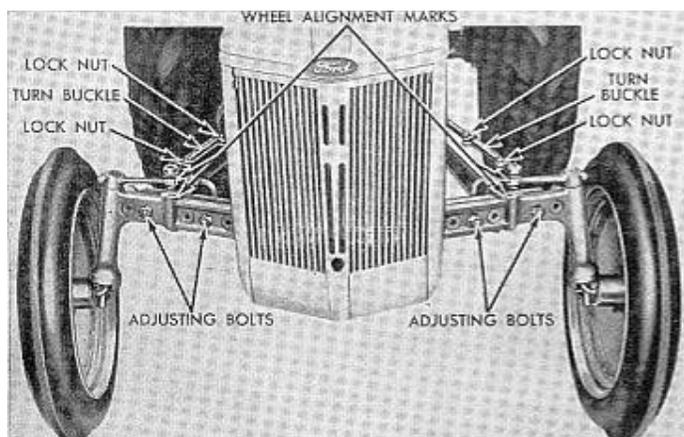

Fig. F01 - Front axle as used on model 8N.
1. The front axle is constructed in three sections and may be adjusted to vary tread width. See Figs. F01 and F02. Steering linkage must be readjusted on model 8N when tread width is changed. Model 2N - 9N wheel alignment is not affected by tread width adjustment.